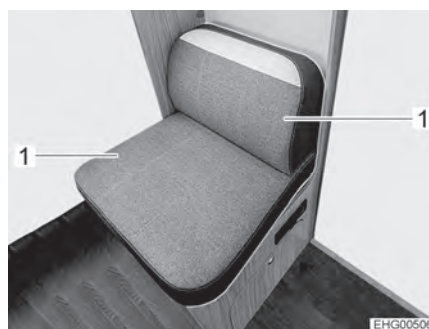

Fig. 15 Bench
- Remove two cushions (Fig. 15,1).